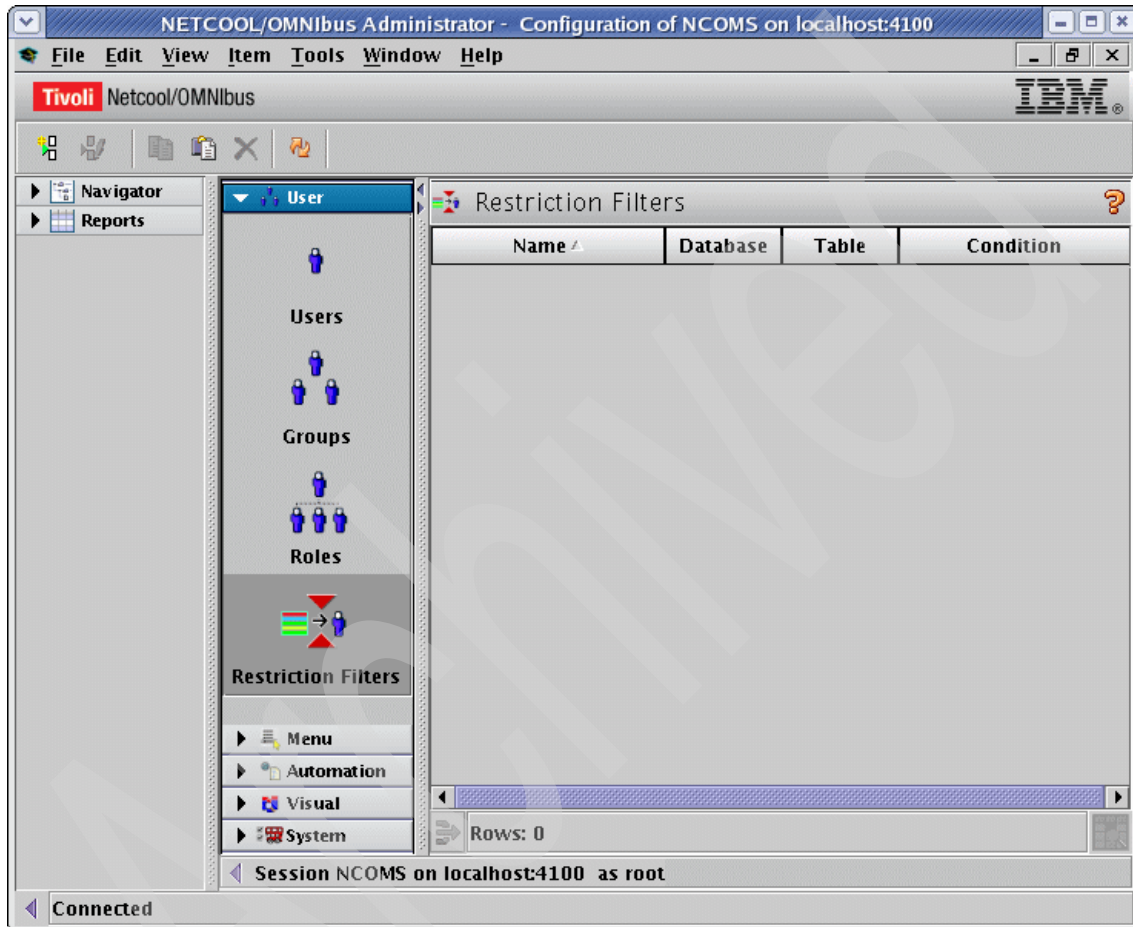

Figure 4-28 Restriction filter definition
1. From the main IBM Tivoli Netcool/OMNibus Administrator window, select **Users** → **Restriction Filters**, as shown in Figure 4-28.